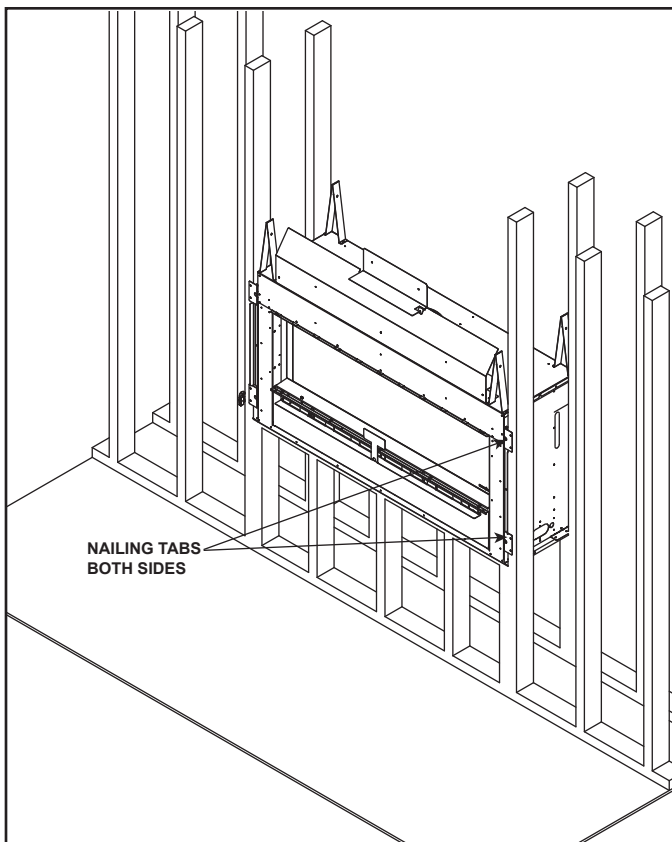

Figure 6.3 Nailing Tab Locations
- Keep nailing tabs flush with the framing. See Figure 6.3.